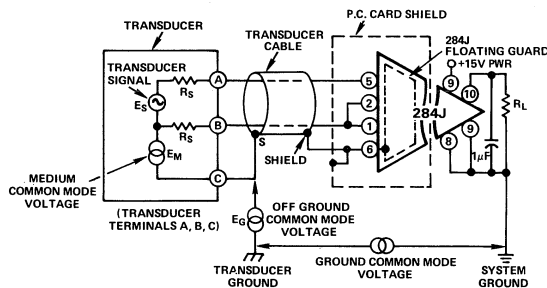

Figure 11. Transducer-Amplifier Interconnection
- Drive the transducer cable shield, S, with the common mode signal source, E_G , to reduce the effective cable capacitance as shown in Figure 11 below. This is accomplished by connecting the shield point S, as close as possible to the transducer signal low point B. This may not always be possible. In some cases the shield may be separated from signal low by a portion of the medium being measured (e.g. pressure transducer). This will cause a common mode signal, E_M , to be generated by the medium between the shield and the signal low. The 78dB CMR capability of model 284J between the input terminals (HI IN and LO IN) and GUARD, will work to suppress the common mode signal, E_M .